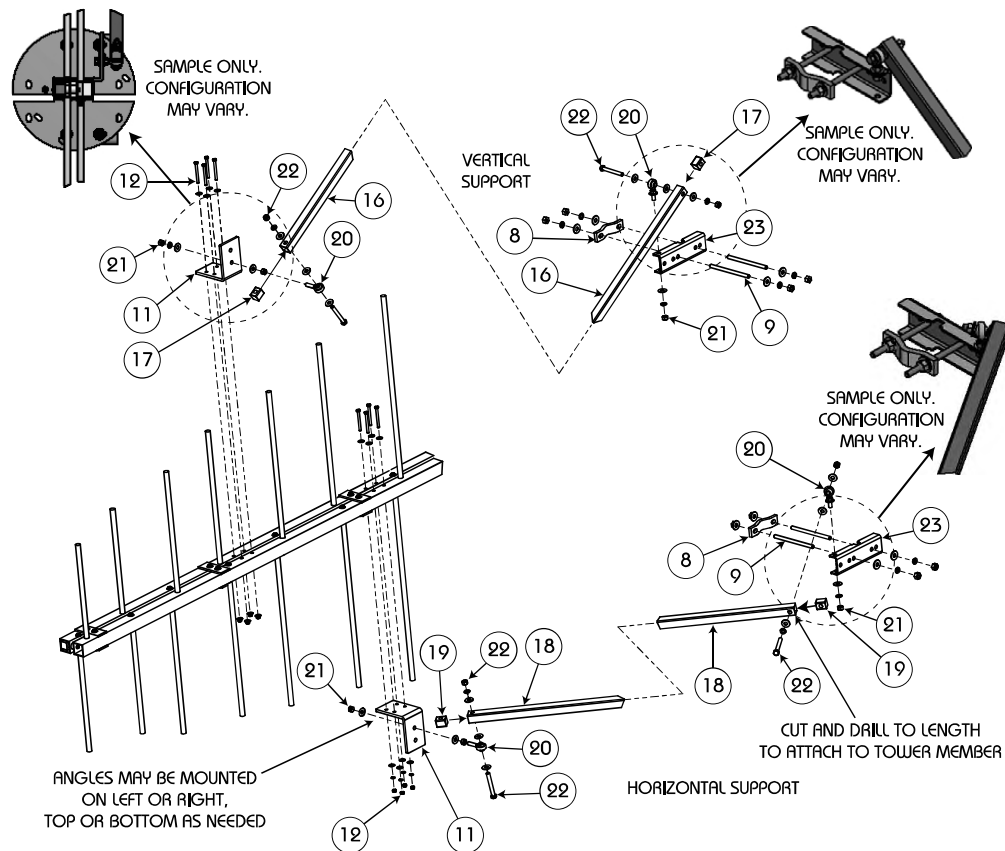

Figure 4. Completing antenna bay and support assembly [step d]
- 5) Using the 5/16 x 3-1/4" hardware (12), attach the fiberglass angles (11) to the booms, as shown in Figure 4.
- d. Assemble the vertical and horizontal supports (Figure 4):
- 1) Using the 1/2 x 4" hardware (22) and an insert block (17 & 19) on each end of each support, attach the rod ends (20) to both ends of the vertical support (16) and one end of the horizontal support (18) as shown in Figure 4.
- 2) Using the 1/2" threaded rods (9), attach the antenna clamp halves (8) loosely to the brace channels (23),
- 3) Using the 1/2-20 hardware (21), attach the brace channel (23) to the rod end at the outer end of the
- 3) Attach the horizontal support (18) loosely to the boom as shown in Figure 4 of this tech sheet. Locate a tower leg or cross-member to which to attach the support.
- 4) If necessary, cut the horizontal support to length and drill it, using the insert block (19) as a drill template.
- 5) Install the rod end (20) on the horizontal support. Connect the rod end to the brace channel (23).